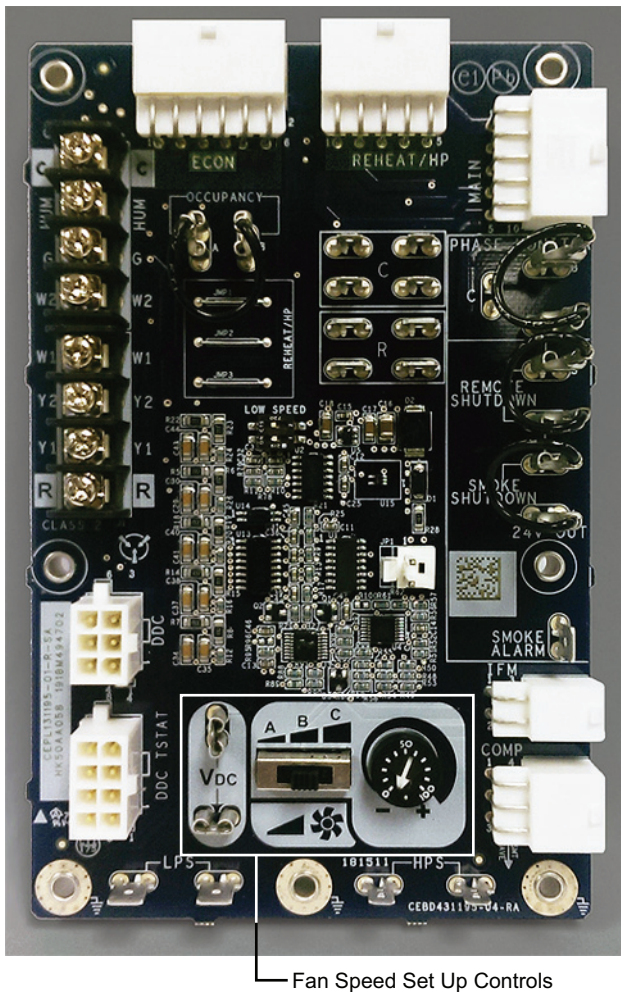
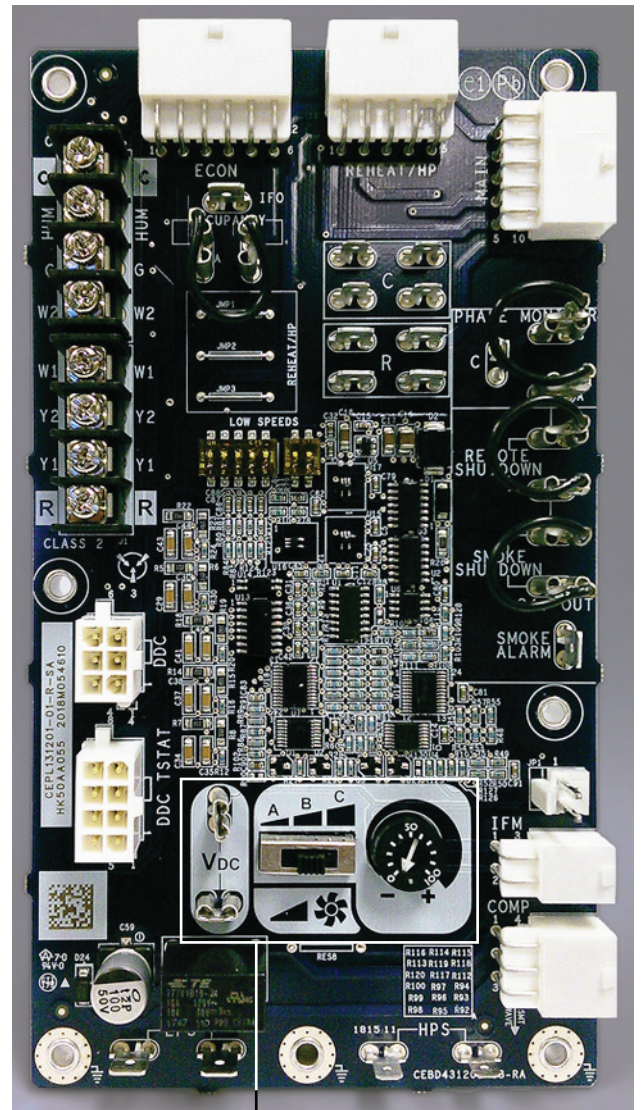

Fig. 7 — UCB Fan Speed Controls — 3-Phase Units
Fig. 8 — UCB Fan Speed Controls — Single Phase Units
The Fan Speed Set Up controls are located on the lower section of the Unit Control Board (UCB). See Fig. 7 for location on 3-phase voltage units or Fig. 8 for location on single phase voltage units.
The 2-pin DIP switch is common to both the single and 3-phase unit control boards (see Fig. 7 and 8). When replacing UCB, the board will be shipped as default without a low speed selected. To select correct FE low fan speed for 3 to 5 ton 48FE units set both DIP switches to “OFF” (0). For 6 ton 48FE units set both DIP switches “ON.” (1). See Table 1. The DIP switch positions can also be found on the unit’s control label diagram.